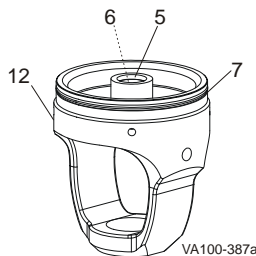

Figure 28 : Remove Yoke O-ring and Guide Bearing
2. Remove the yoke (Figure 28, item 4). Inspect the lower stem o-ring (item 6) and cylinder o-ring seals (item 7).
4. Remove the PTFE guide bearing (Figure 28, item 5) by placing a screwdriver behind the bearing to pry it away from the wall of the yoke. Use needle-nose pliers to grip and remove the bearing.